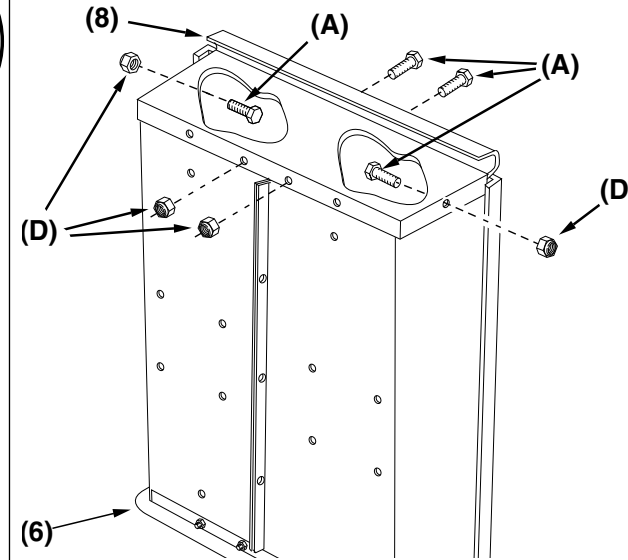

Figure 7
STEP 7 (SEE FIGURE 7): Position the cart bed with the rear of the cart facing towards the ground. Attach the front panel (8) using four 1/4" x 5/8" hex bolts (A) and 1/4" nylock nuts (D).